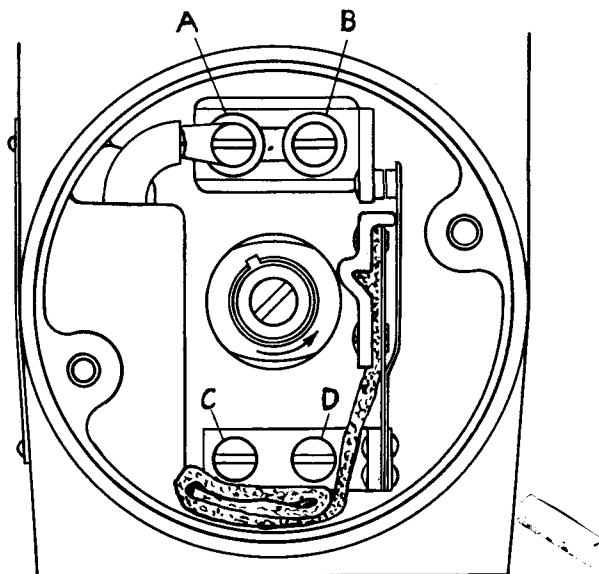

Fig. 3. Showing Breaker Mechanism.
3. If the contacts do not open at the proper time, loosen the two screws, A and B (Fig. 3), which hold the adjustable contact assembly in place and move it to right or left until the two contacts separate when the timing marks are opposite each other. It should be noted that the contact points are not adjusted for any fixed clearance between them.
4. If the contacts do not line up properly, the location of the contact and cam follower assembly can be adjusted by loosening the two screws, C and D (Fig. 3), which secure it to the housing. The screw holes are slightly elongated to permit this adjustment. After retighten-